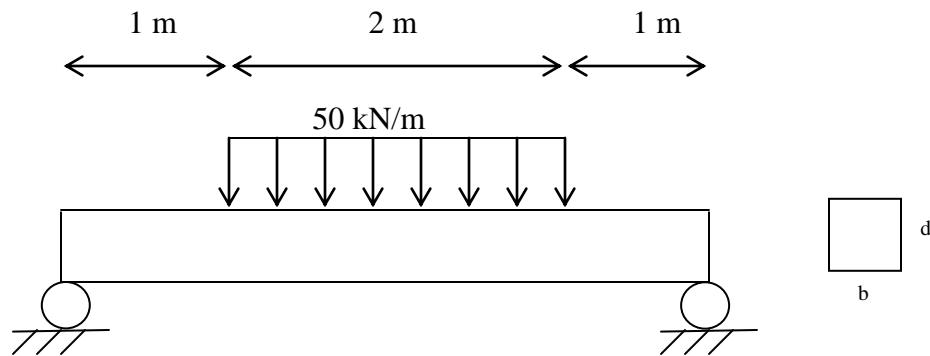

Figure 4
3. A beam is loaded by a distributed force at its center as shown in Figure 4, the specifications of the beam are as follow;